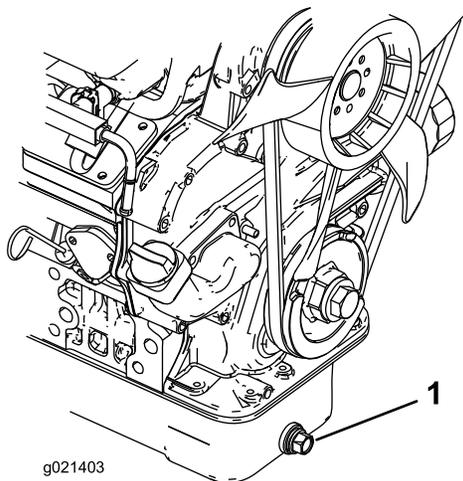

Figure 48
1. Remove the drain plug (Figure 48) and let oil flow into a drain pan. When the oil stops flowing, install the drain plug.